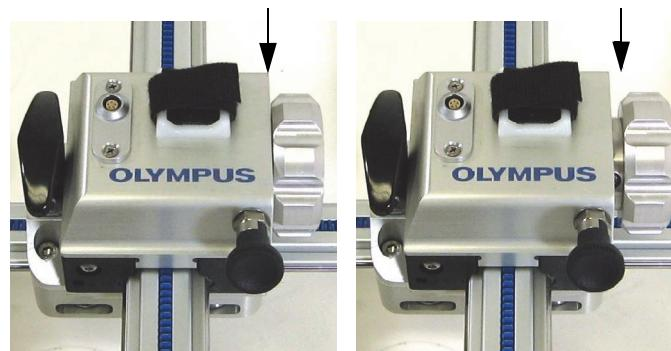

Figure 1-3 Increment-knob positions: incrementing (left) and free-running (right)
- Increment knobs, which can be set to either increment the axes in 4 mm steps, or to provide a free-running motion (see Figure 1-3 on page 25).